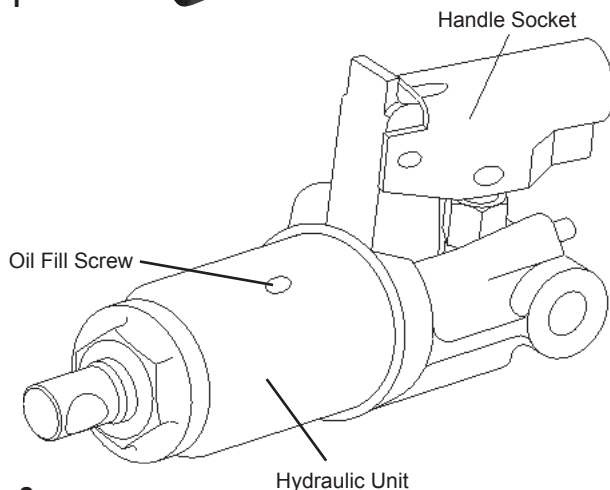

Fig. 2
1. Loosen the Oil Fill Screw (Fig. 2).
5. Tighten the Oil Fill Screw (Fig. 2).
1. Remove the Oil Fill Screw (Fig. 2).
2. Add qualified hydraulic oil of high grade into the Fill Screw (Fig. 2) opening slowly until the oil reaches the top of the oil fill hole.
3. Replace the Fill Screw (Fig. 2).